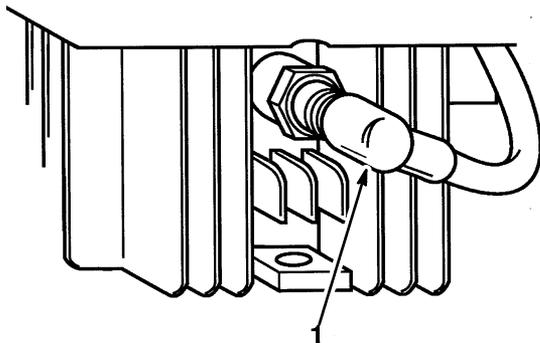

Figure 36
1. Stop engine and disconnect spark plug wire (Fig. 36) before installing or removing grass chute.
1. Stop engine and disconnect spark plug wire (Fig. 36) before installing or removing mulch plate.